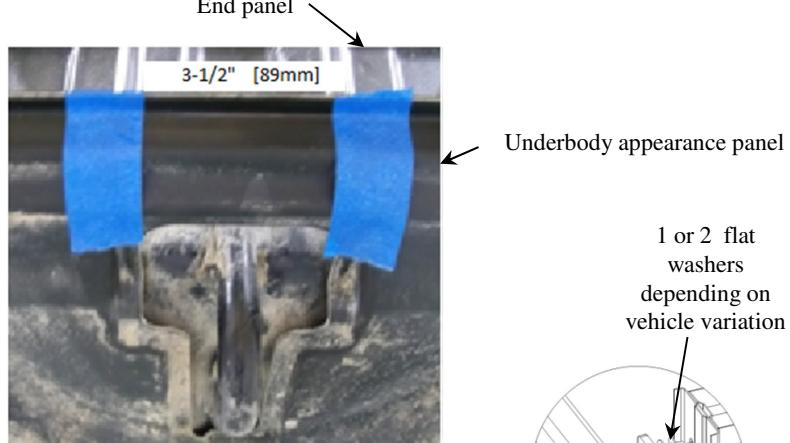

Figure 5
6. Mark and trim the underbody appearance panel attached to the vehicle at the tie down hook as shown Figure 5.
7. Remove the (4) bolts ((2) each side) from under the bumper at the end panel. Return fastener to owner.
8. Place bolts (item 1) through slots in hitch bracket, place (item 2) ((1 or 2) depending on vehicle variation) flat washer onto each bolt as shown. Both sides.
10. Lift the hitch into position, and hand tighten the bolts (item 1). Install the remaining fasteners for the U-bolt.